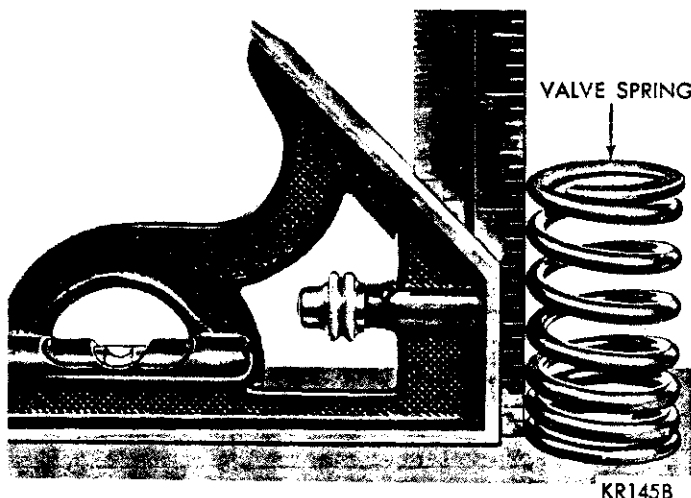

Fig. 14—Inspecting Valve Spring Squareness
(2) Inspect each valve spring for squareness with a steel square and surface plate, test springs from both ends (Fig. 14). If the spring is more than 1/16 inch out of square, install a new spring.